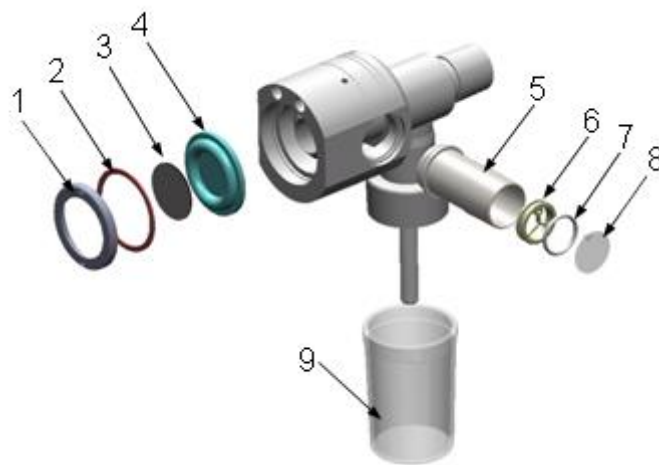

Figure 8-3
- c. Remove the end cover(1 in Figure 8-3) and the gasket (2 in Figure 8-3);
- d. Remove the scale board(3 in Figure 8-3)and the diaphragm(4 in Figure 8-3);
- e. Rotate the expiratory connector (5 in Figure 8-3) clockwise;
- f. Pull out one-way valve core(6 in Figure 8-3), rubber o-sealing ring(7 in Figure 8-3) and one-way diaphragm(8 in Figure 8-3);
- g. Rotate the water trap (9 in Figure 8-3), then pull it out.
(2) Cleaning
(3) Disinfection